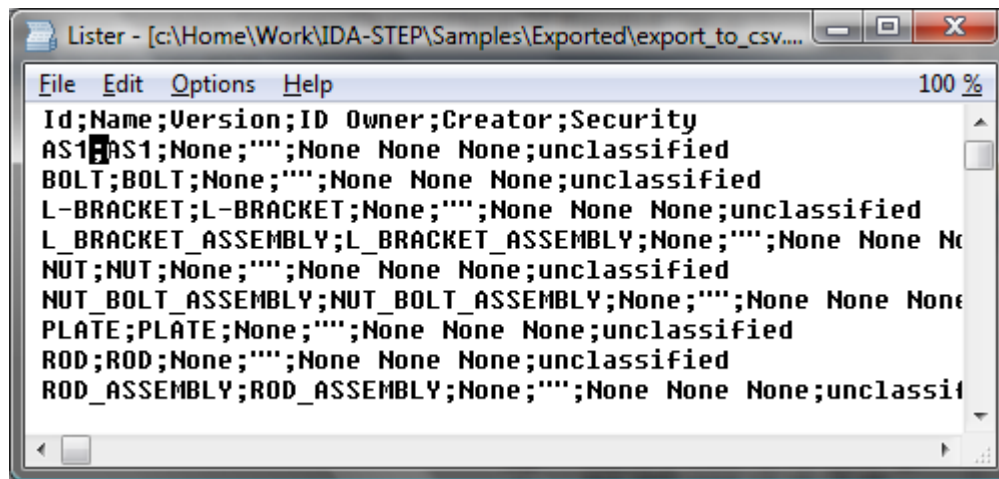

Figure 4. The text separator semicolon (';')
- **Semicolon** - the text in the generated table should be separated by column character (see Figure 4);